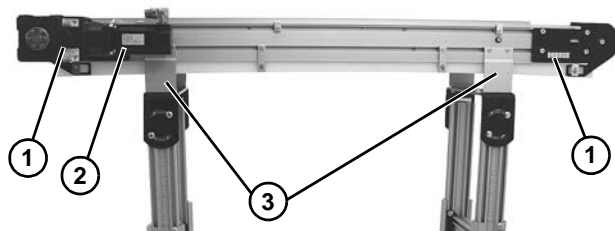

Figure 19
1. Place temporary support stands at both ends (**Figure 19, item 1**) of the conveyor. Place an additional support stand under the drive motor (**Figure 19, item 2**), if equipped. See WARNING.
2. Remove mounting brackets (**Figure 19, item 3**) from one side of conveyor. (Reverse steps 3 & 4 of "Mounting Brackets" section on page 7).